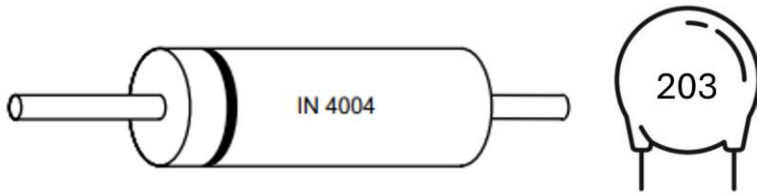

Figure 12
A small power diode (IN 4004) is shown alongside a capacitor (203) in Figure 12.
a) Indicate the direction that conventional current could flow through the diode by drawing an arrow on Figure 12.